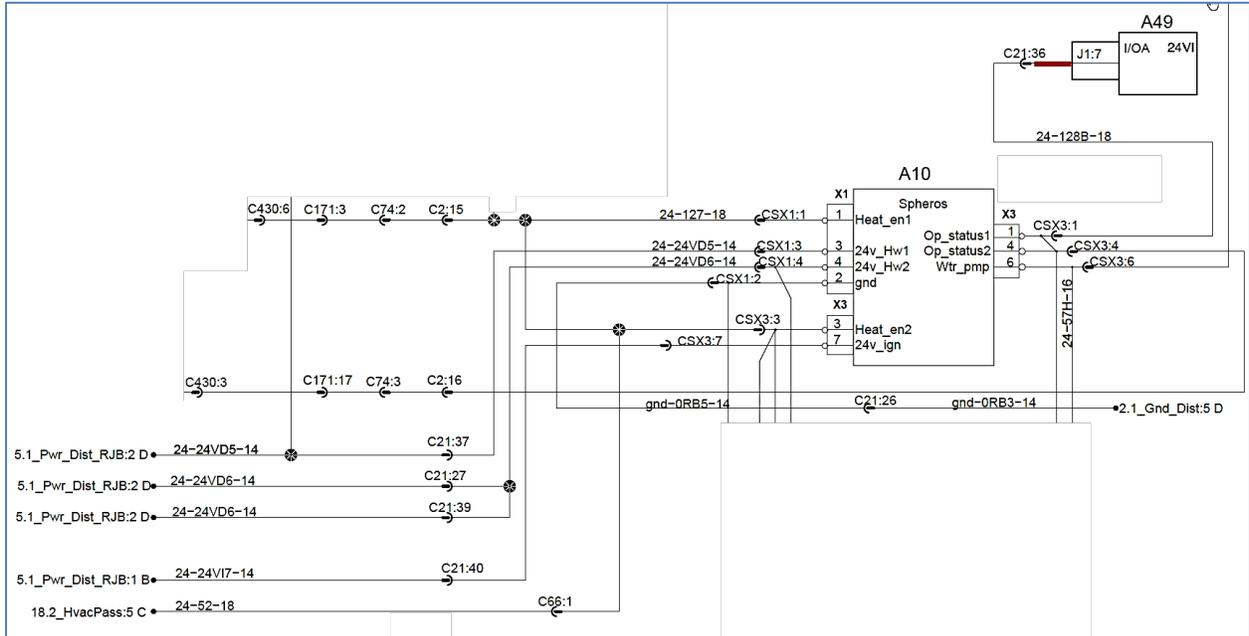

FIGURE 31
14. In the main power compartment: remove circuit connected from connector C21 pin 36 cavity (Figure 31 & Figure 32) and module A49 connector J1 pin 7 cavity.